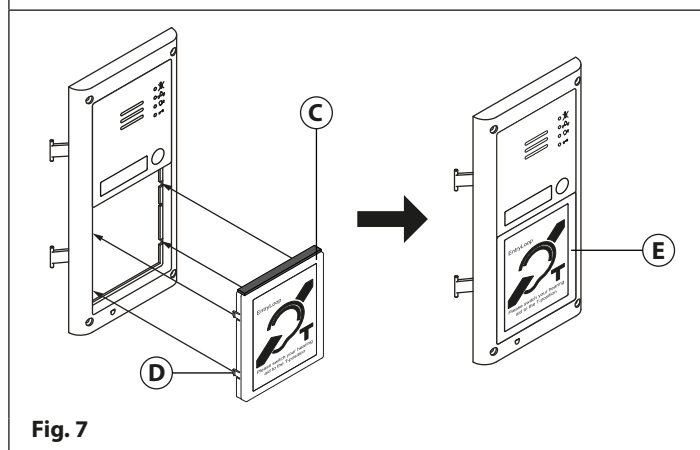

Fig. 7
4. Feed the Art.4846/IND module into the front side of the 4000 series support frame, as shown in **Fig.7, (C)**.
5. Use the 4 side clips on the module (**Fig.7, (D)**) to secure the induction loop in place, as shown in **Fig.7, (E)**.